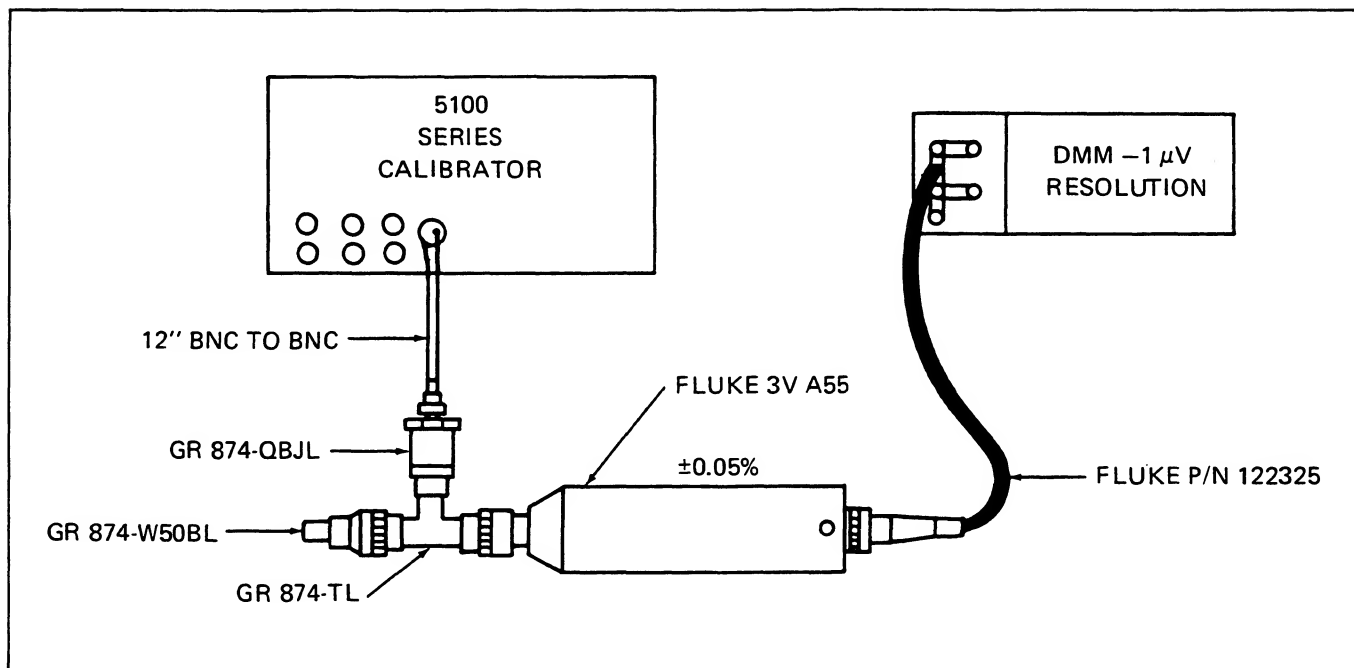

Figure 603-3. Wideband Low Frequency Flatness Tests
1. Connect the equipment as shown in Figure 603-3.